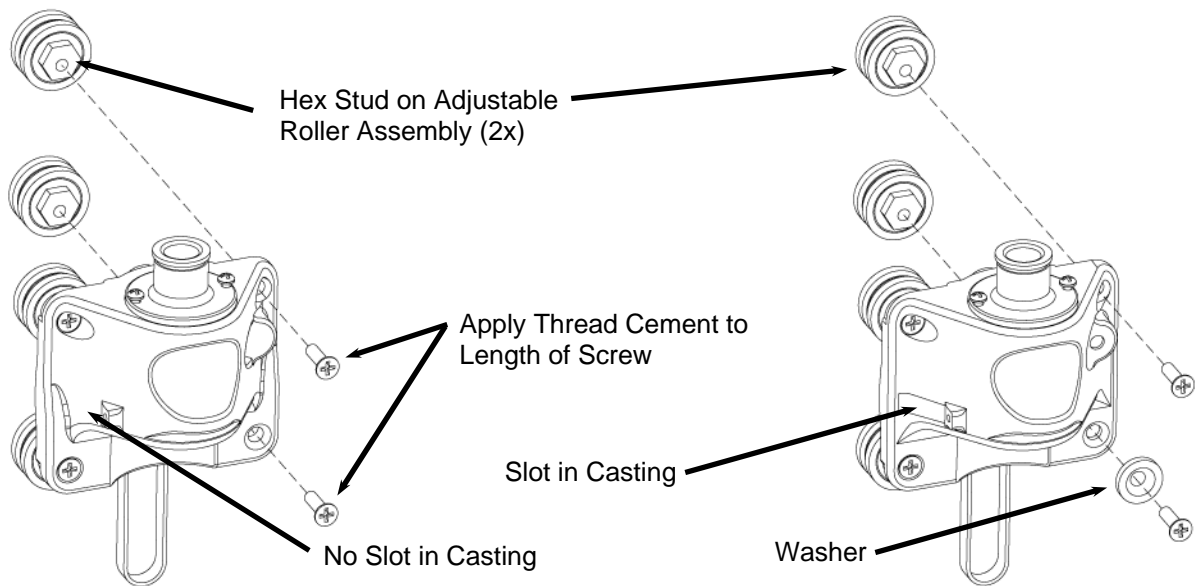

FIGURE 12: VIEW OF AN UNASSEMBLED Z-TRUCK
1. **Prepare the new Z-truck:** The Z-truck replacement will come as a unit along with two adjustable roller bearings, their screws and a washer. The assembly comes in two flavors, one with a slot on the lower left side of the silver casting and one without the slot. Identify which version you have before proceeding using Figure 12. Before placing the assembly back on the machine, place a small dab of permanent thread cement along the length of the two screw threads and assemble the rollers to the main Z-truck assembly. (For only the slotted casting version place the washer on the lower right roller as shown in the right picture of Figure 12). Orient the rollers such that the hex stud on the roller bearing faces the truck. In this first step start the thread but do not tighten it. It is imperative that the thread cement be used on these screws or they will loosen quickly during operation.